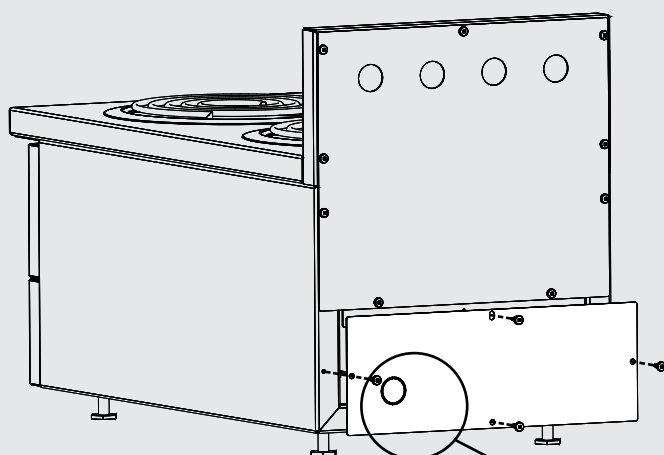

Figure 1
2. Remove the unit bottom rear panel by unscrewing the four (4) fixing screws. **(Figure 1)**